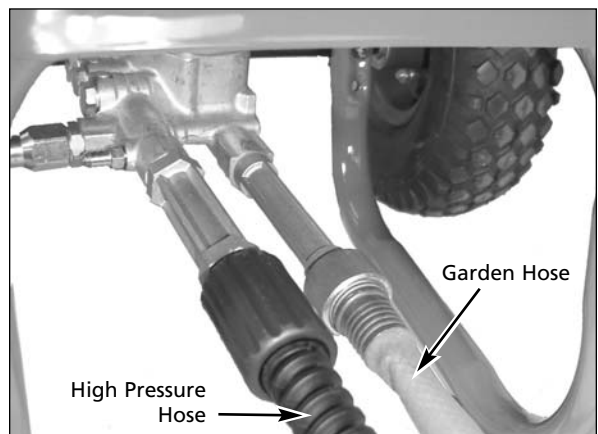

Figure 4 - Secure garden hose
3. Secure garden hose (not included) to the inlet connection on pump (See Figures 4 and 5).